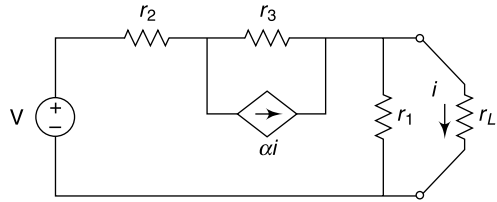

Fig. 4.167 Circuit of Ex. 4.136
4.136 In the network shown in Fig. 4.167, verify, using Thevenin theorem